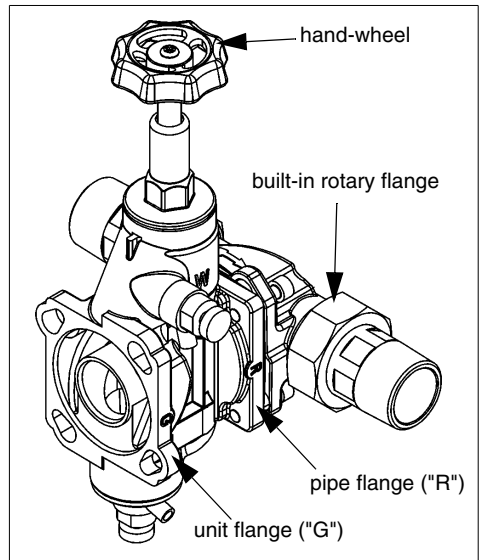

Fig. 8: Bypass valve
- Connect the bypass valve on the flange side with the cast in letter "R" (pipe flange) to the built-in rotary flange by engaging the bayonet fitting (see fig. 8).